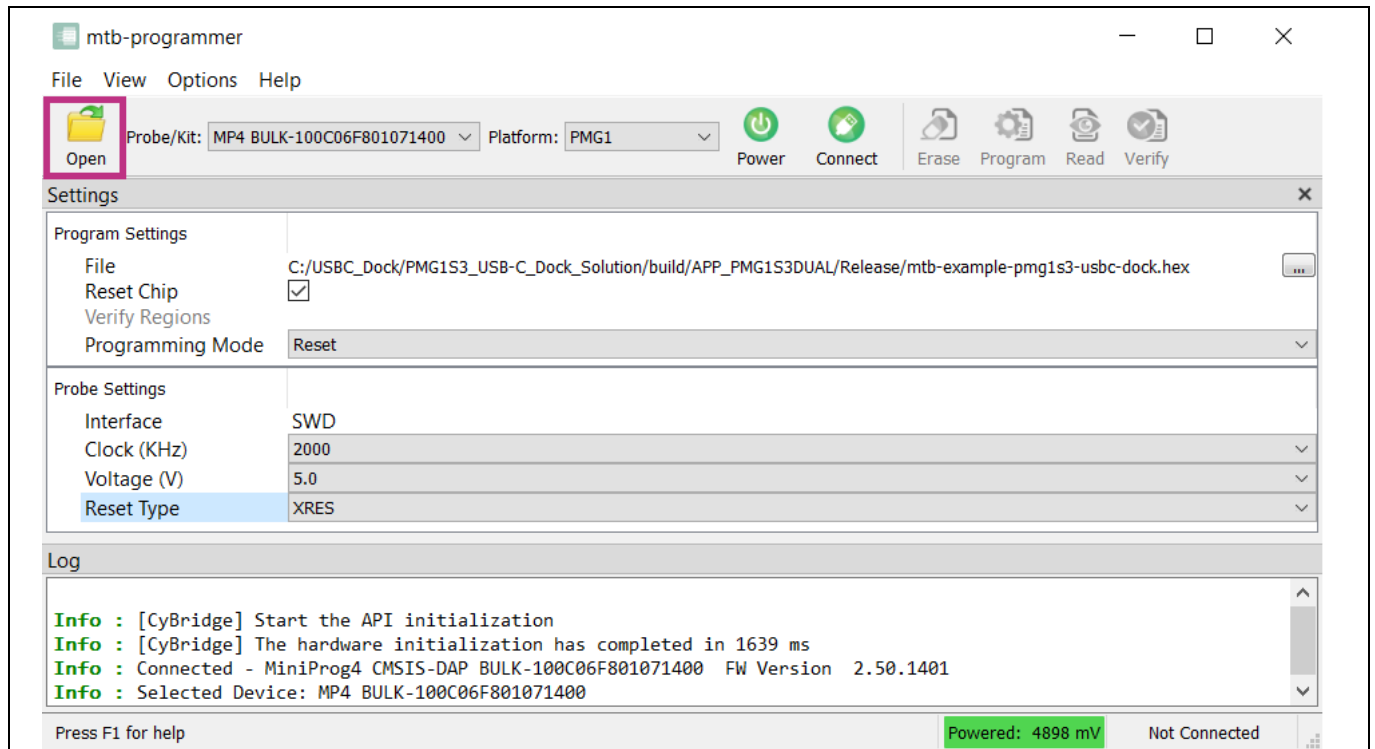

Figure 9 Opening the HEX file
- Click **Open**, as shown in Figure 9.